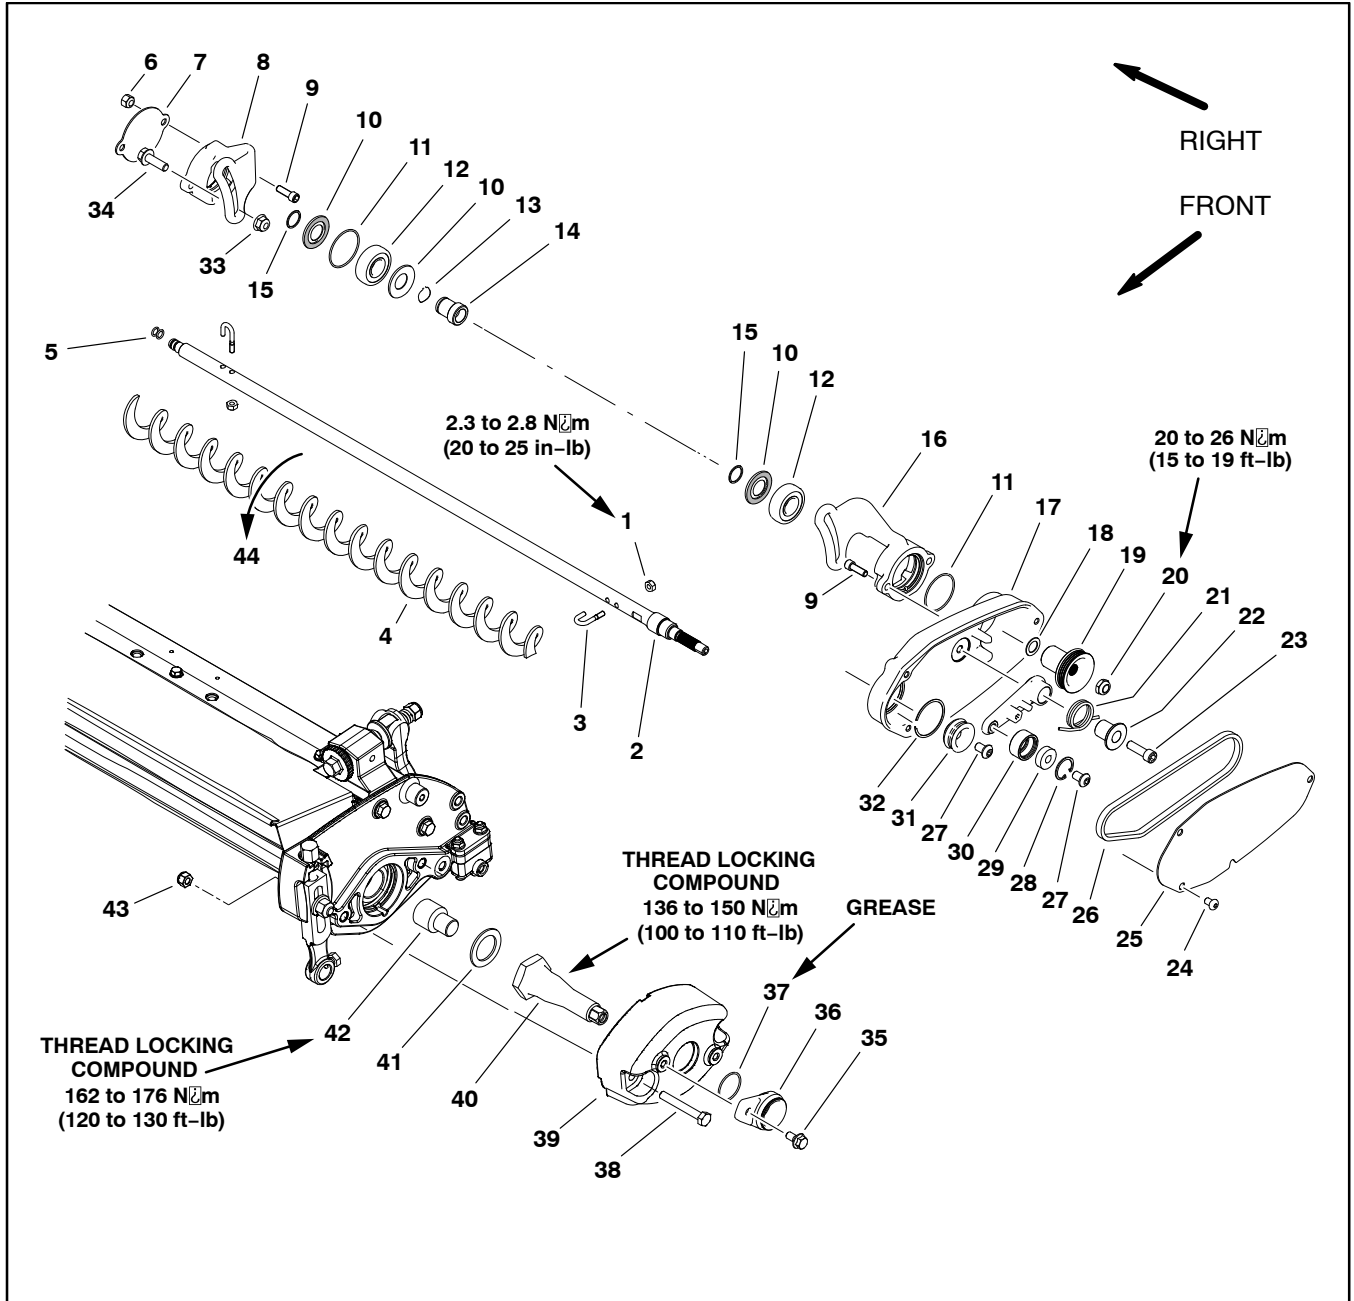

Figure 47
Drive components for the rear roller brush are located on the opposite side of the cutting unit from the hydraulic cutting reel motor. Figure 47 shows components used when the brush drive is on the left side of the cutting unit.
Refer to Fig. 47 for this procedure.
E. For groomer gear boxes installed on the left side of the cutting unit, retrieve the shim (item 41 in Fig. 47).